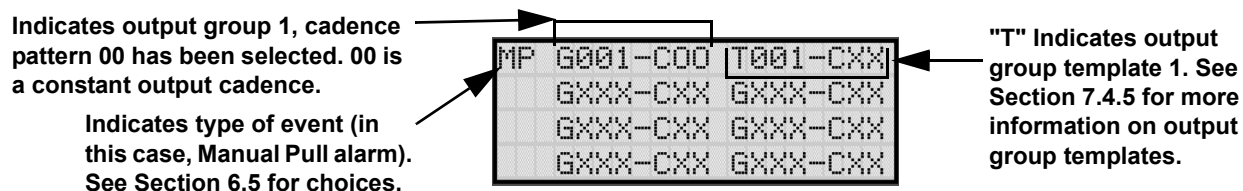

Figure 7-3 Selecting Output Groups/Templates and Cadence Patterns for a Zone Event
6. From the next screen, a list of 8 event types will display. Select the event type you want to program. A screen similar to the one shown in Figure 7-3 will display. Press **ENTER**.
8. Select options for each event that could occur in this zone. Figure 7-3 is a complete example of how you might map a zone.